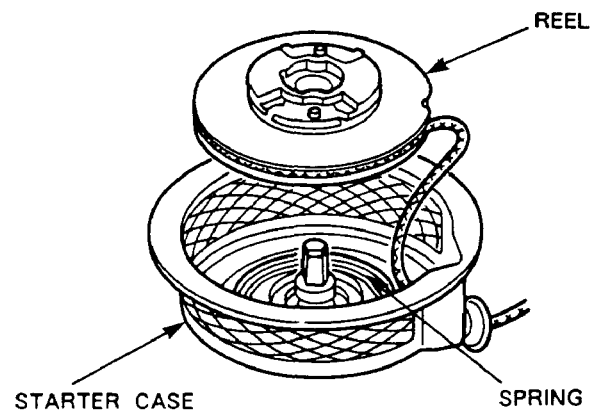

FIG. 81
- (4) Take out the reel from starter case as shown in Fig.81.